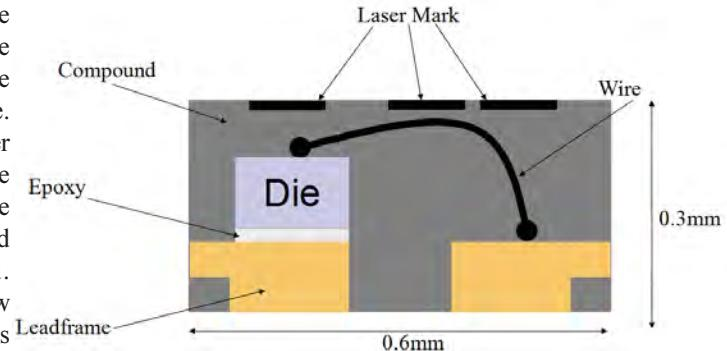

Figure 2. Schematic of X3 Thin QFN Package Construction
Figure 2 shows a basic internal structure of a QFN TVS comprising a plastic molded package with a diode die attached to a leadframe (LF) using die-attach adhesive (epoxy) internally and a wire connecting the diode die to the external package. As the package gets smaller and thinner to an intended package size of $0.6 \times 0.3\text{mm}$ and thickness 0.3mm , all these aforementioned elements need to be reduced to compatibly smaller and thinner dimensions to fit into the ultra-small package. The die thickness, epoxy, and LF would have